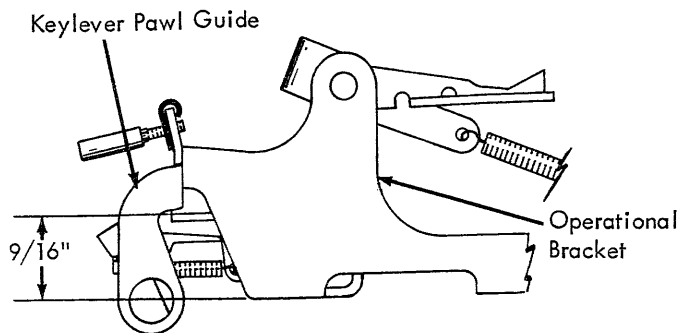

FIGURE 112. Interposer Height
- a. Adjust the keylever pawl guide so that the lower edge is $9/16"$ from the bottom of the operational bracket (Fig. 112).